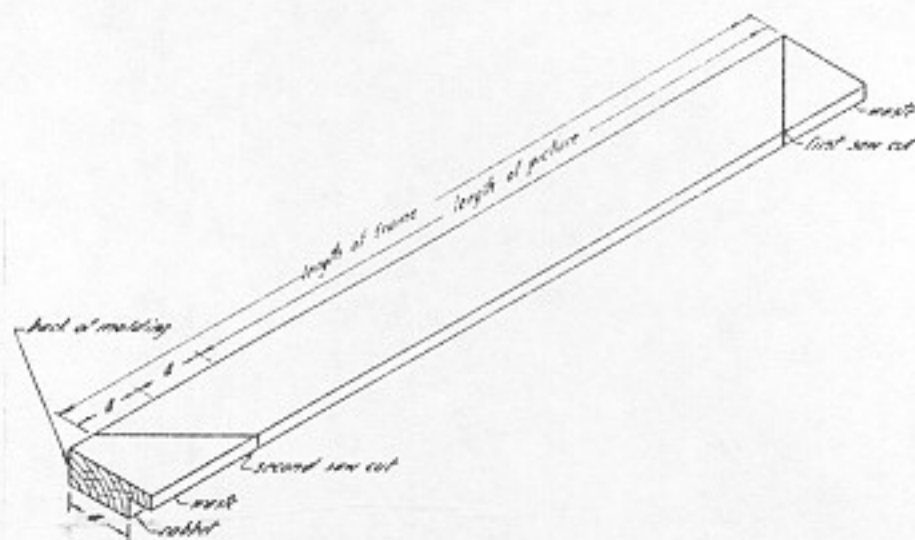

Fig. 228. Finding length of picture-frame molding.
5. The length of the picture or the glass is measured, and twice the width of the molding is added to this, measured on its underside from the rabbet to the back. This total length is laid out on the back of the molding (Fig. 228).